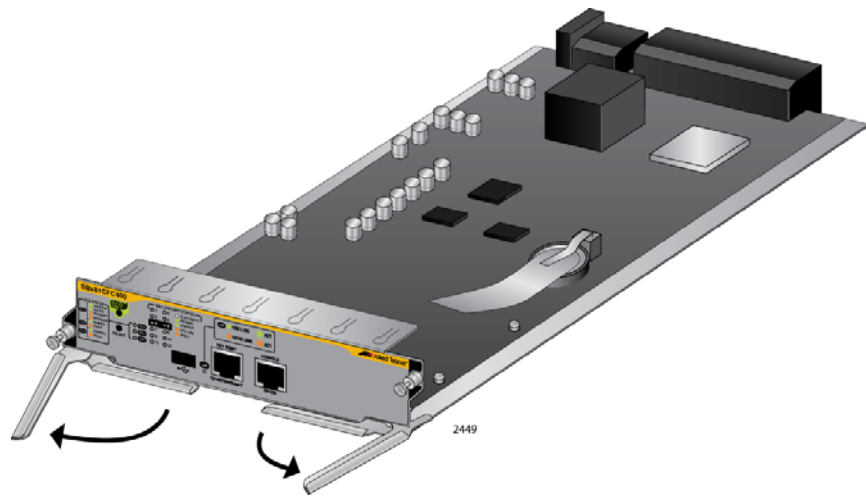

Figure 62. Opening the Locking Handles on the AT-SBx81CF400 Controller Fabric Card
5. Move the locking handles on the front panel to the open position, as shown in Figure 62.